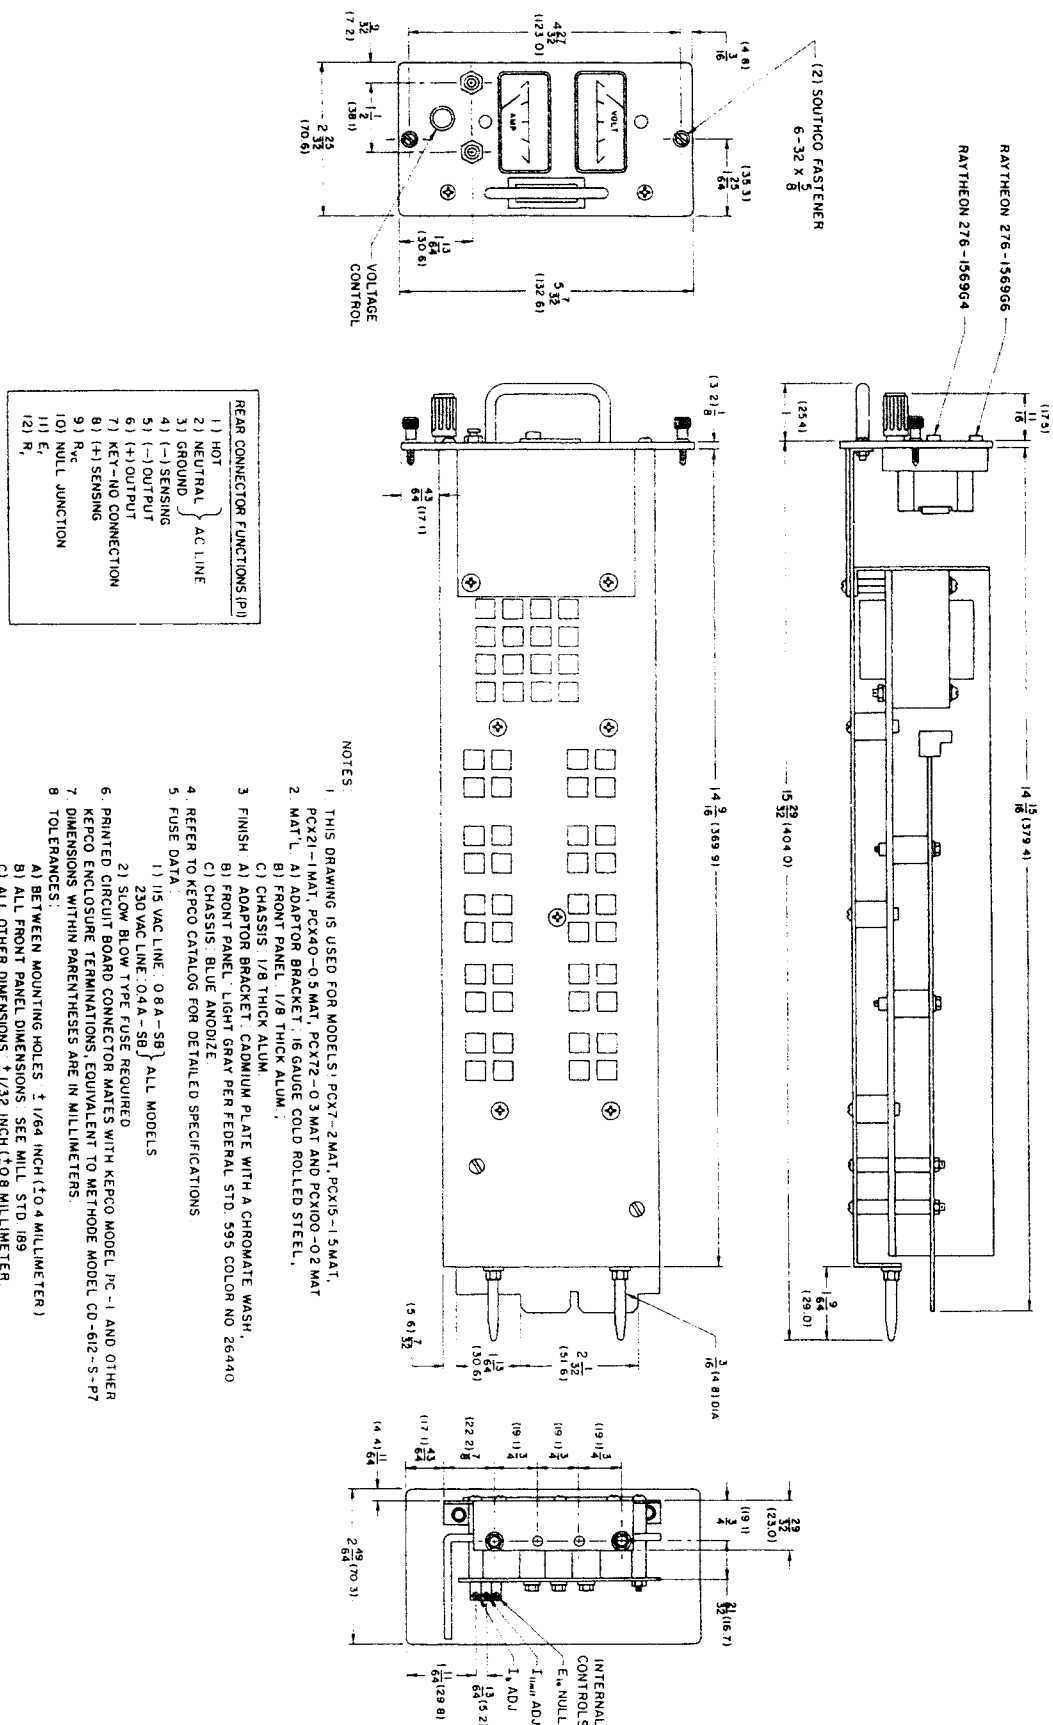

FIG. 1-3 MECHANICAL OUTLINE.
- a) Refer to FIG. 1-3, "Mechanical Outline Drawing", for dimensions, materials used, and finish.